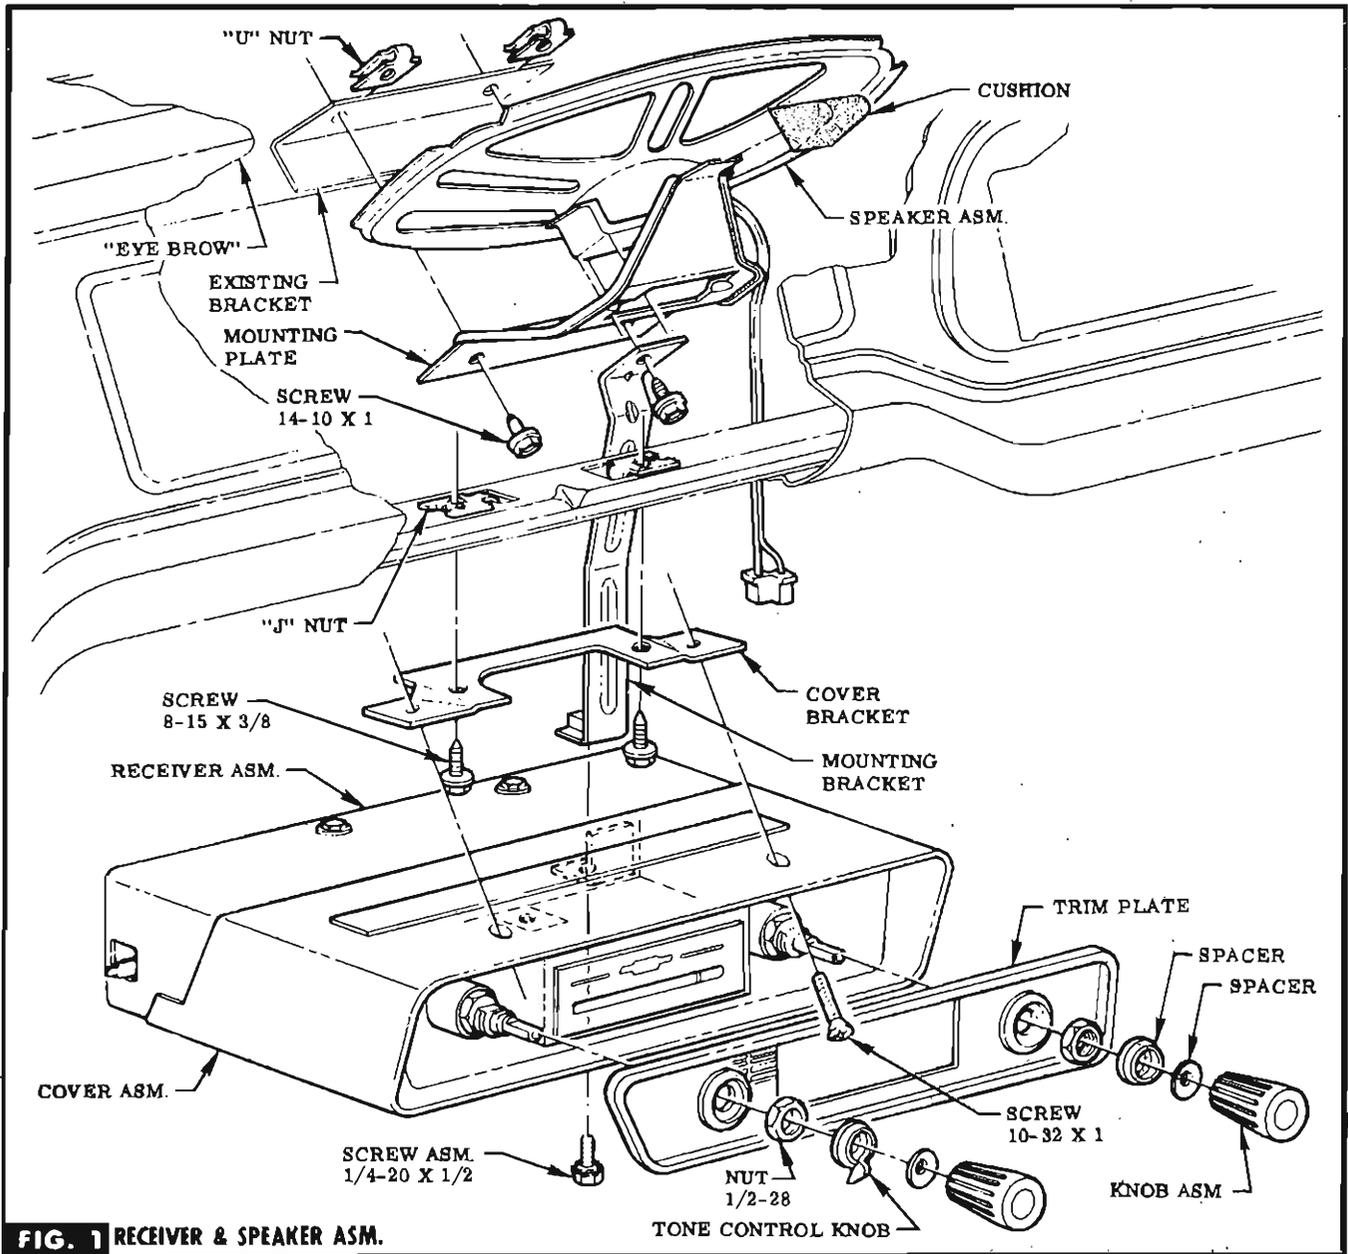

FIG. 1 RECEIVER & SPEAKER ASM.
STEP 1 PUSH CUSHION ONTO TANG OF MOUNTING PLATE. DROP MAGNET END OF SPEAKER THRU HOLE IN MOUNTING PLATE & POSITION MOUNTING PLATE CAREFULLY UNDER INSTRUMENT PANEL, NESTING CUSHIONED END OF PLATE INTO PANEL "EYE BROW". SEE FIG. 1.
PANEL & ATTACH FORWARD END OF MOUNTING PLATE & MOUNTING BRACKET TO EXISTING BRACKET ON DASH PANEL WITH "U" NUTS & SCREWS. SEE FIG. 1.
STEP 3 ATTACH COVER BRACKET TO INSTRUMENT PANEL REINFORCEMENT WITH "J" NUTS & SCREWS. SEE FIG. 1.
STEP 4 SLIDE RECEIVER INTO COVER & ATTACH TRIM PLATE WITH NUTS. SEE FIG. 1.
STEP 5 SLIP SPACERS ONTO R.H. CONTROL SHAFT, & TONE CONTROL KNOB & SPACER ONTO L.H. CONTROL SHAFT. PRESS A KNOB ONTO EACH SHAFT END. SEE FIG. 1.
STEP 6 ATTACH COVER ASM. TO COVER BRACKET WITH SCREWS. ATTACH MOUNTING BRACKET TO BRACKET ON RECEIVER WITH SCREW. SEE FIG. 1.